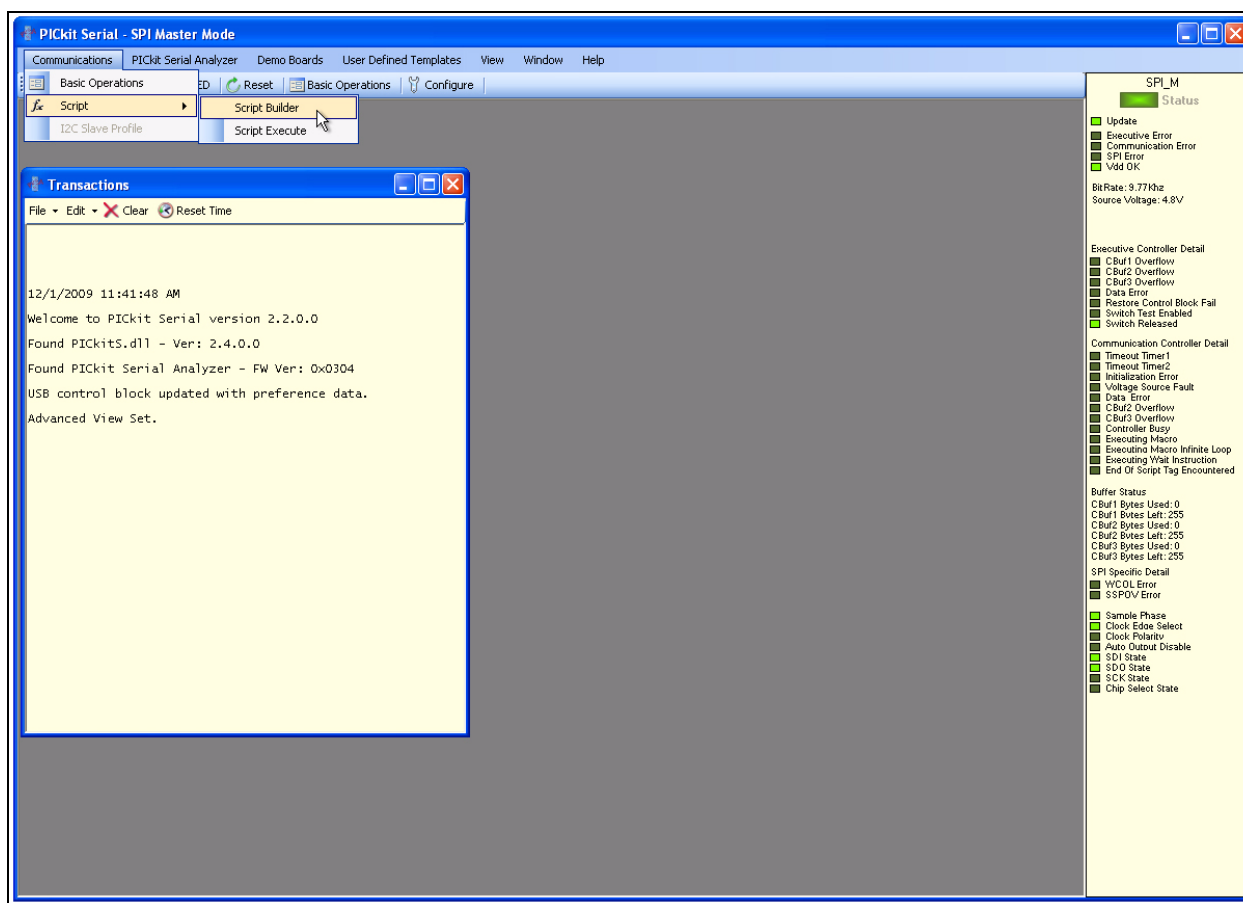

FIGURE 2-8: PICKit™ Serial – Script Builder Menu Selection.
Now we are going to open the Script Builder window, select the Communications -> Script -> Script Builder menu item (see Figure 2-8).
8. Open the Script Builder window (see Figure 2-8).